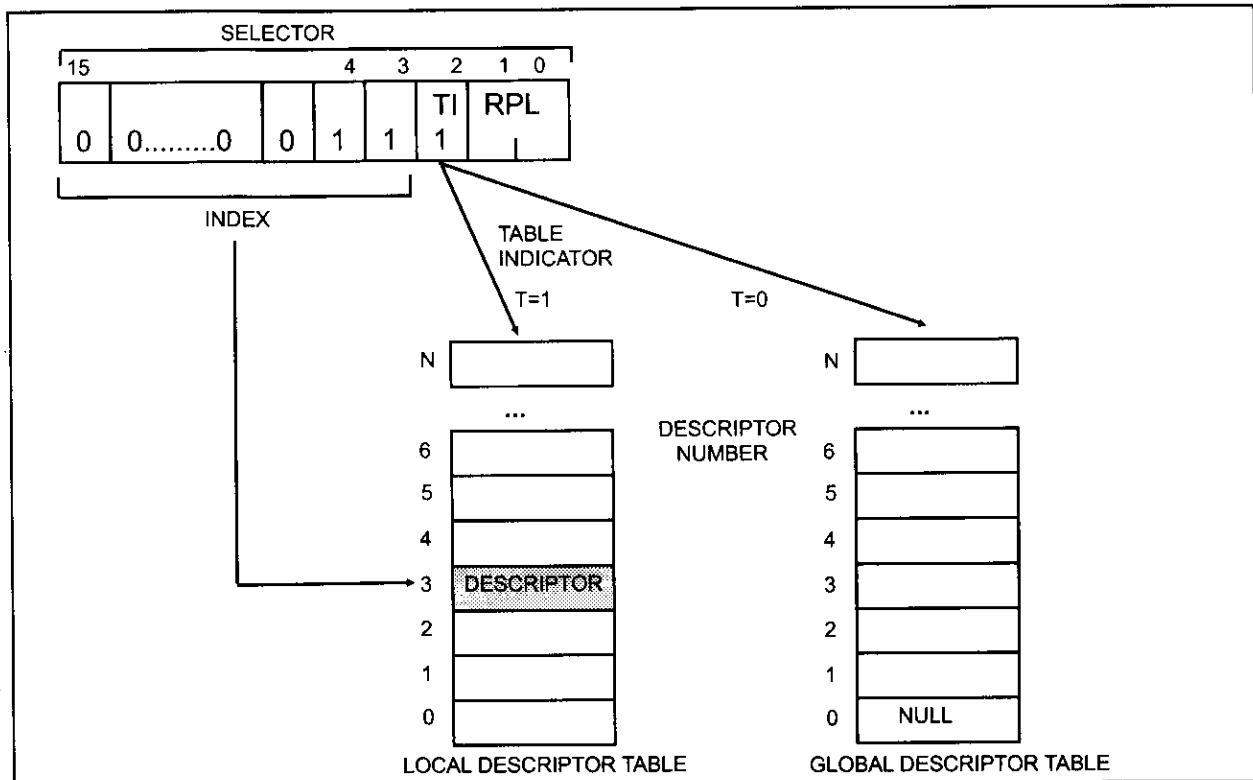

Figure 21-9. LDT and GDT Selection
There are two types of descriptor tables for the 386: the local descriptor table (LDT) and the global descriptor table (GDT). The GDT is used for the system, and individual tasks can have their own LDT. How do the segment registers know which one they are accessing? The third bit (TI) of the segment register (referred to as the selector) always indicates which table should be used. See Figure 21-9.
As seen in Figure 21-9, the 14 bits of the selector (segment) register can have 16,384 (2^{14}) possible combinations. Each possible value can access a descriptor that can hold addresses of memory chunks as large as 4 gigabytes. Therefore, we have $2^{14} \times 2^{32} = 64$ terabytes of virtual memory for the 386 (recall that *tera* is defined as 2^{40}). To put it another way: The 386 can access 64 terabytes of hard disk (virtual memory) as long as the virtual memory is broken down into 4 gigabyte pieces, since it has only 32 address pins. While the segment limit in the 8086/286 is 64K bytes, the segment limit in the 386 was raised to 4G. One of the drawbacks of 386 segmentation is its variable segment size, which leads to memory fragmentation. Another is the absence of what is called a *dirty bit* in the access byte of the descriptor table. Assume that there is some memory that can be written into. The accessed (A) bit indicates if the data has been accessed but does not indicate if any new data was written into it. Why should the operating system care if the memory is altered (written into)? If the data is altered, it is the job of the operating system to save it on the disk to make sure that the hard disk always has the latest data. If the dirty bit is zero (D=0), it means that the data has not been altered and the operating system can abandon it when it needs room for new data (or code) since the original copy is on the hard disk. This will save time for the operating system. If the dirty bit is one (D=1), the operating system must save the data before it is lost or abandoned. Both problems of variable segment size and lack of a dirty bit in segmentation are fixed in the paging method of virtual memory.